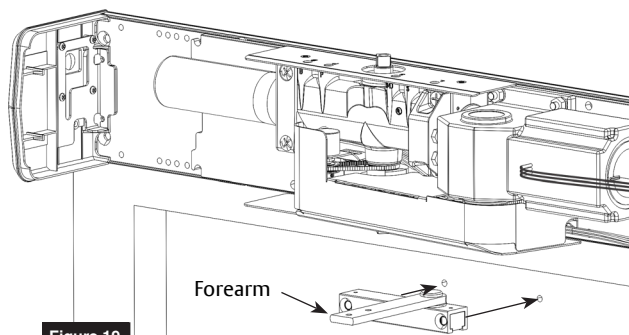

Figure 19
- Using previously prepared holes in door, install two (2) 1/4-20 x 1-5/8" screws through shoe and into sex bolts. (Figure 19)